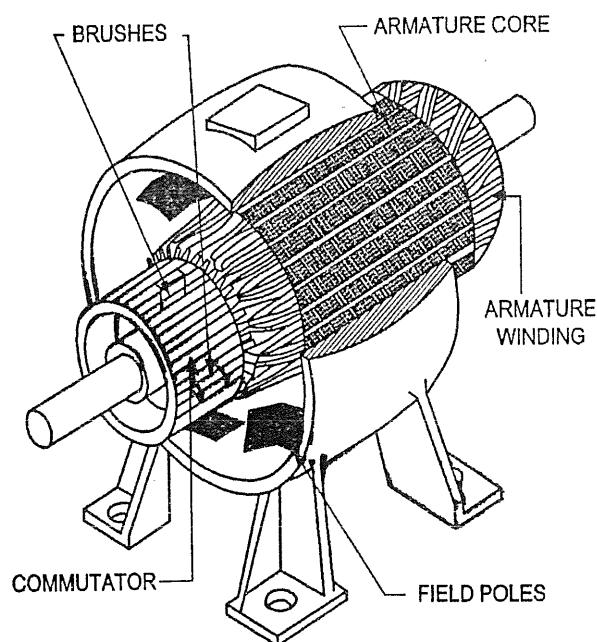

FIG. 4.28.2
- A D.C. machine consists of the following essential parts as shown in Fig. 4.28.2.